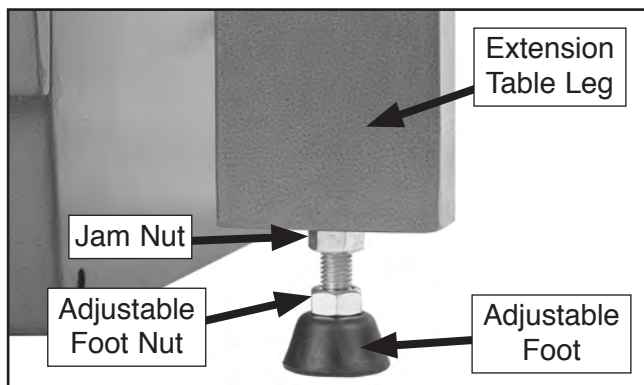

Figure 36. Location of extension table alignment components.
17. Loosen jam nut at bottom of extension table leg, rotate adjustable foot nut until extension table is aligned with main table, then tighten jam nut against bottom of leg to secure setting (see **Figure 36**).